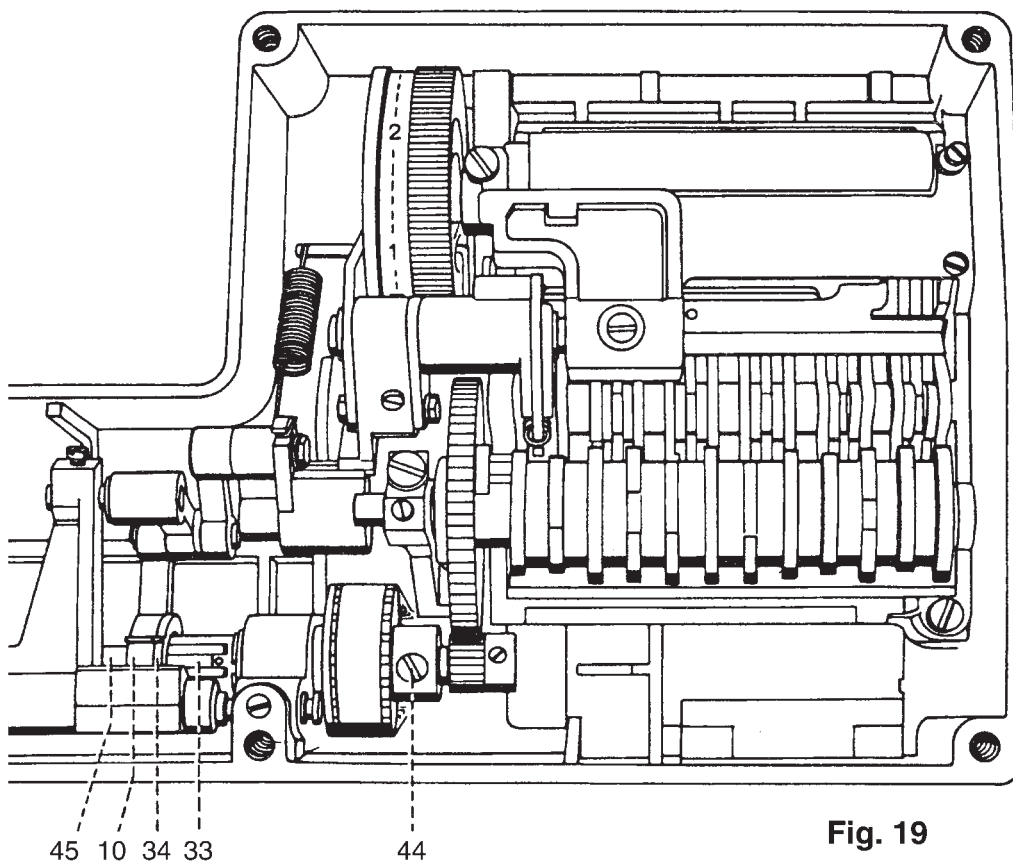

Fig. 19
When the needle bar has moved 2 mm up from its lowest position (b.d.c), the line marks on the edge 34 of feeding eccentric 33 and connection rod 10 must be opposite each other (fig. 19).
- Turn the long drive shaft 45 clockwise until the line marks on edge 34 of feeding eccentric and connection rod 10 are opposite each other (fig. 19).